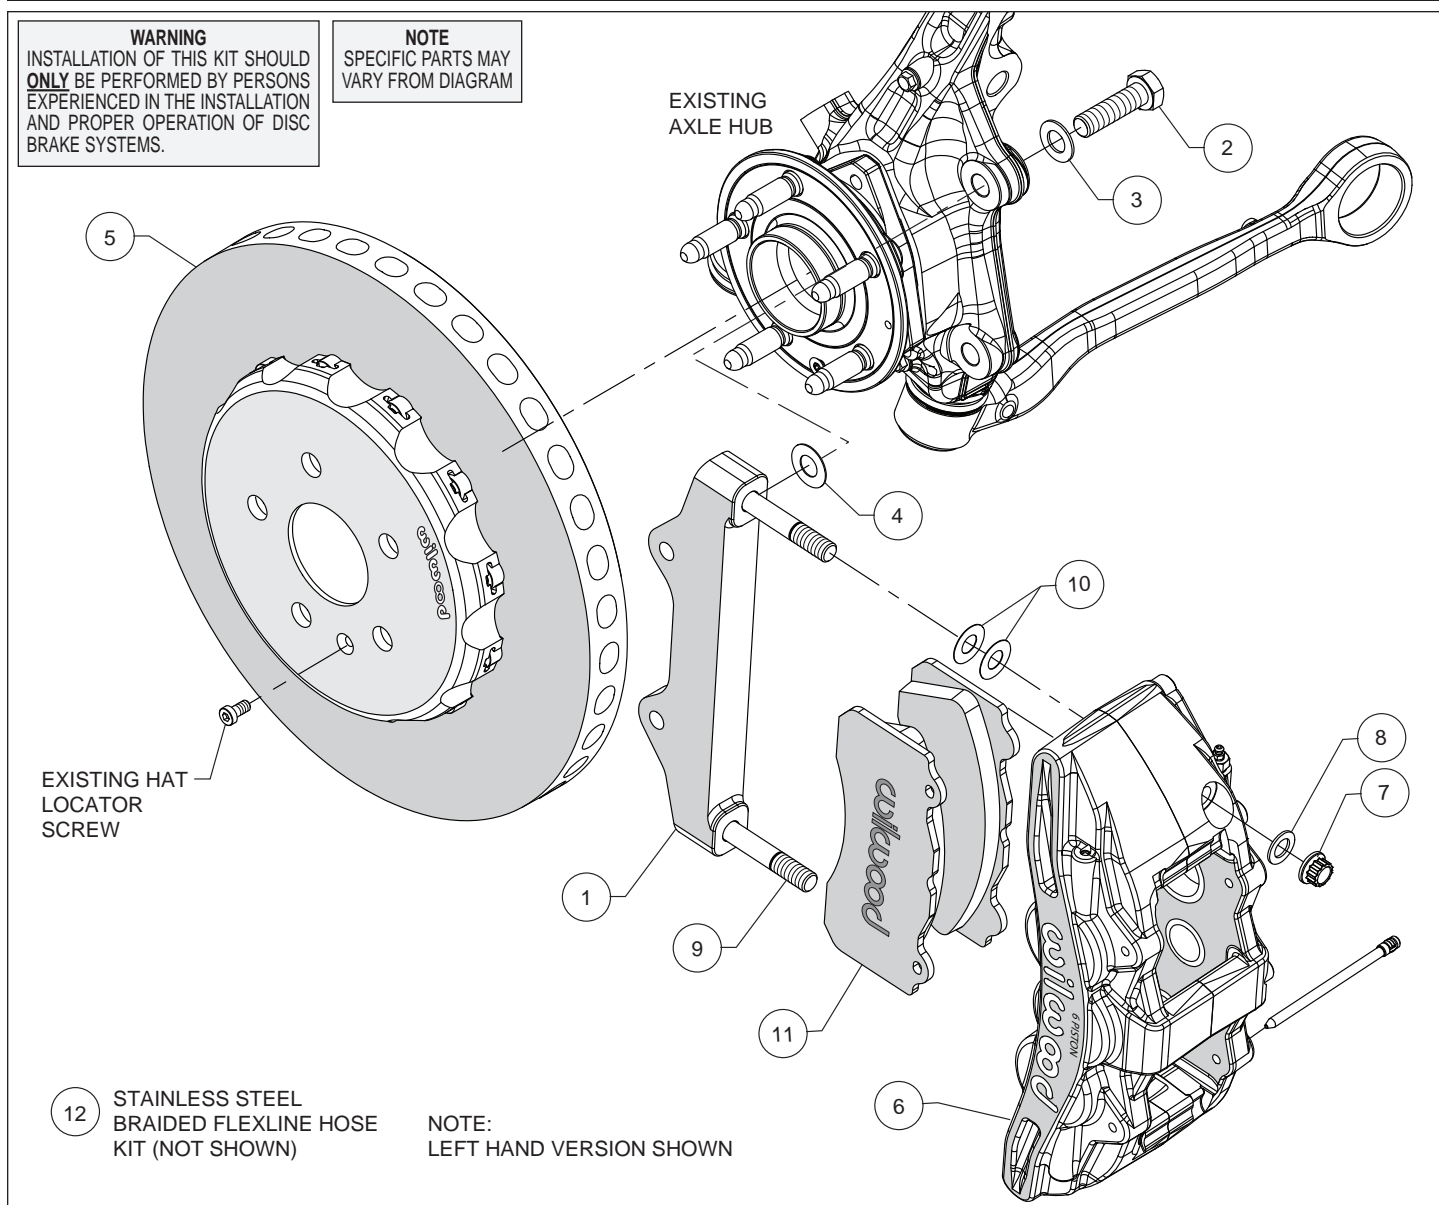

Figure 1. Typical Installation Configuration
Assembly Instructions (numbers in parenthesis refer to the parts list and Figure 1 on the preceding pages):
- The caliper mount bracket (1) should initially be installed with clean, dry threads on the mounting bolts. Orient the bracket, as shown in Figure 1 and Photo 1, and install using bolts (2) and washers (3). Initially place one .029" thick shim (4) on each bolt between the bracket and upright, Figure 1. Temporarily tighten the mounting bolts. **NOTE:** *The bracket must fit squarely against the mount bosses on the upright.* Inspect for interference from casting irregularities, machining ridges, burrs, etc. Later, after the caliper alignment has been checked, the mount bolts will be secured using red *Loctite*® 271.
- The hat/rotor assembly (5) has been pre-assembled at the factory. Slide the hat/rotor assembly onto the axle hub, Photo 2. **NOTE:** *The hat must fit flush against the axle hub flange or excessive rotor run out may result.* Install the hat locator screw (OEM), as shown in Figure 1, to keep the hat/rotor assembly in place while continuing with the installation.
- NOTE:** *This kit contains distinct right and left hand calipers that must be mounted in a specific direction, as described below.* Lubricate the caliper mounting studs (9) with lightweight oil. Initially place two .015" thick shims (10) on each stud between the caliper and the bracket, as shown in Figure 1 and Photo 3. Mount the caliper (6) onto the bracket (1) using lock nuts (7) and washers (8), Figure 1. Temporarily tighten the lock nuts. Ensure that the caliper is mounted so the largest pistons are at the rotor exit end of the caliper, in relation to the direction of the rotor. View the rotor through the top opening of the caliper. The rotor should be centered in the caliper, Photo 4. If not, adjust by adding or subtracting shims (4) between the bracket and the upright. Always use the same amount of shims on each of the two mounting bolts. Once the caliper alignment is correct, remove the bracket mounting bolts (2) one at a time, apply red *Loctite*® 271 to the threads, and torque to 77 ft-lbs.
- Remove the two pad retaining pins from the caliper (6) by pushing out the pins from the tapered end using a blunt instrument. Insert the brake pads (11) into the caliper from the bottom, Figure 1 and Photo 5. With the friction material facing the rotor, secure the brake pads in place with the pad retaining pins, Photo 6. Reinstall the caliper onto the caliper mounting bracket and temporarily tighten the lock nuts (7). Check that the top of the brake pad is flush with the outside diameter of the rotor, Photo 7. If not, adjust by adding or subtracting shims (10) between the caliper and the bracket. After the caliper pad height is set, torque the caliper lock nuts (7) to 65 ft-lb.